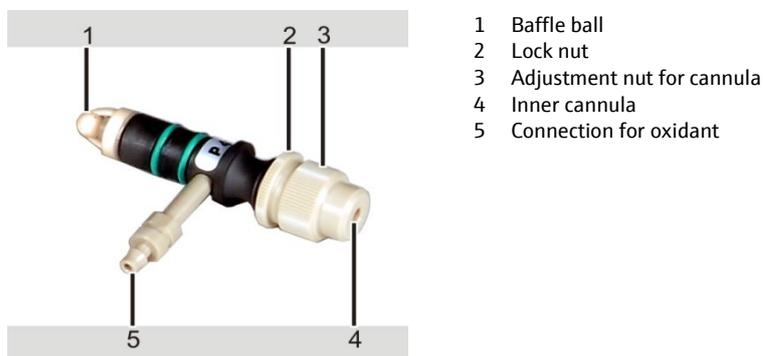

Fig. 58 Nebulizer components
- Loosen the lock nut (2 in Fig. 58).
- Adjust the depth of the cannula with the adjustment nut (3 in Fig. 58).